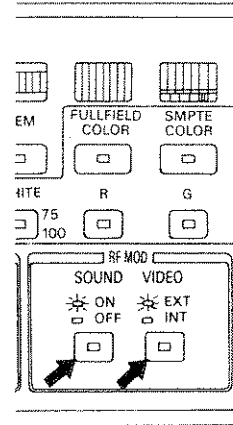

Figure 4.23
4.7.2 Video Modulation (See Figure 4.23 and 4.24)
4.7.3 Sound Modulation (See Figure 4.23, 4.24, and 4.25)